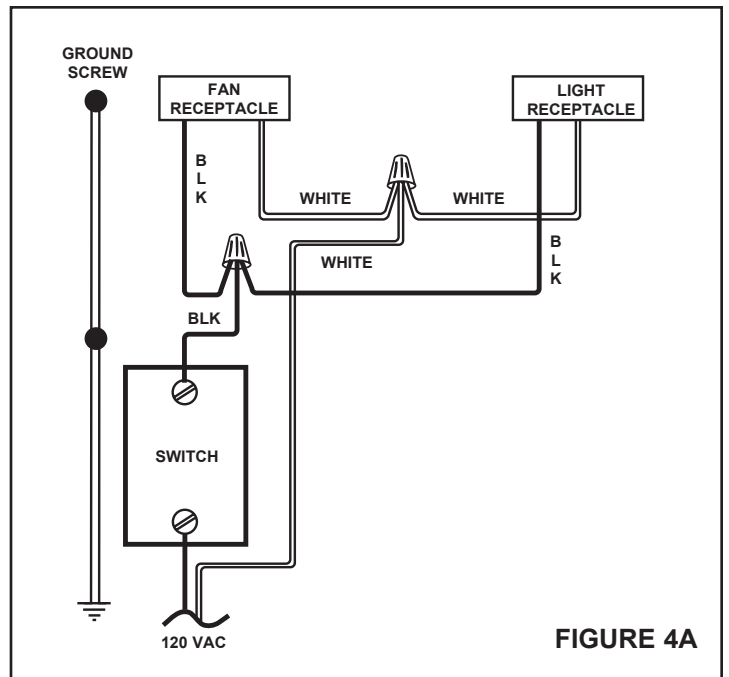
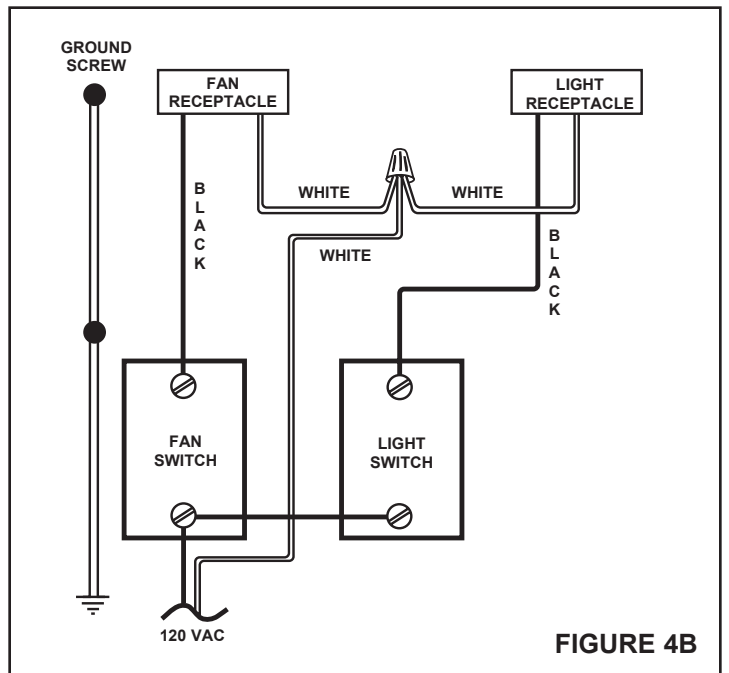

FIGURE 4A
FIGURE 4B
4. Refer to Figures 4A and 4B. If a single switch will be used to control both the fan and the light, make wiring connections as shown in Figure 4A. If a double switch will be used for separate control of the fan and light, make connections as shown in Figure 4B.